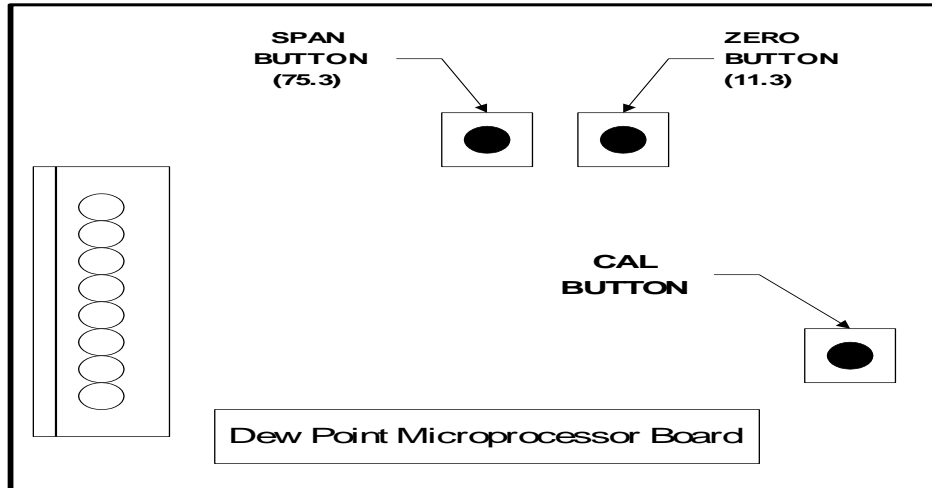

Figure 1
- 1.1 The **microprocessor board** contains three very small buttons that are used for calibration. Two are next to one another, and they are marked “75.3%” and “11.3%”, while the other has no label. The unmarked button is the “Calibrate” button. The approximate locations of each button are shown on this diagram (Figure 1):